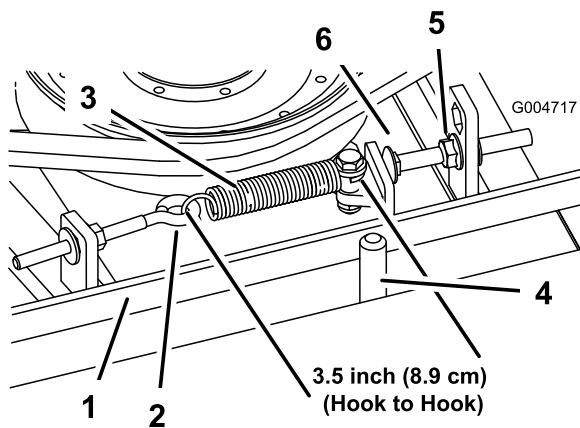

Figure 66
When properly tensioned, the extension spring (hook to hook) measurement should be approximately 8.9 cm \pm .63 cm (3.50 \pm .25 inch) (inside). Once the correct spring tension is attained, adjust the stop bolt (carriage bolt) until there is approximately .32 cm \pm .152/.000 cm (.125 \pm .060/-.000 inch) clearance between the head of the bolt and the idler arm (Figure 66).
Note: Make sure the belt is positioned on the spring side of the belt guide (Figure 66).
2. Loosen the eye bolt allowing the removal of the extension spring (Figure 66).
3. Loosen the flange nut securing the stop bolt to the mounting tab. Back off the nut enough to allow the idler arm to pass by the stop bolt (Figure 66). Move the idler pulley away from the belt to release belt tension.
8. Reconnect the extension spring (Figure 66) to the eye bolt and tension the belt as follows: